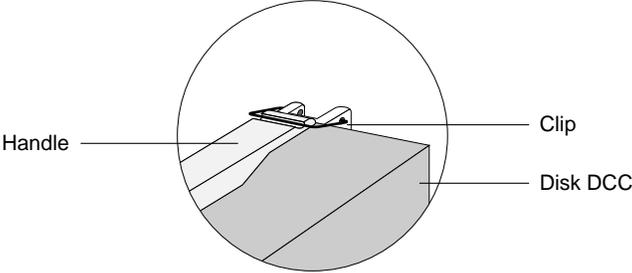

Figure 35. Unlatching the Disk DCC
10. Release the retaining clip that secures the Disk DCC handle (Figure 35).